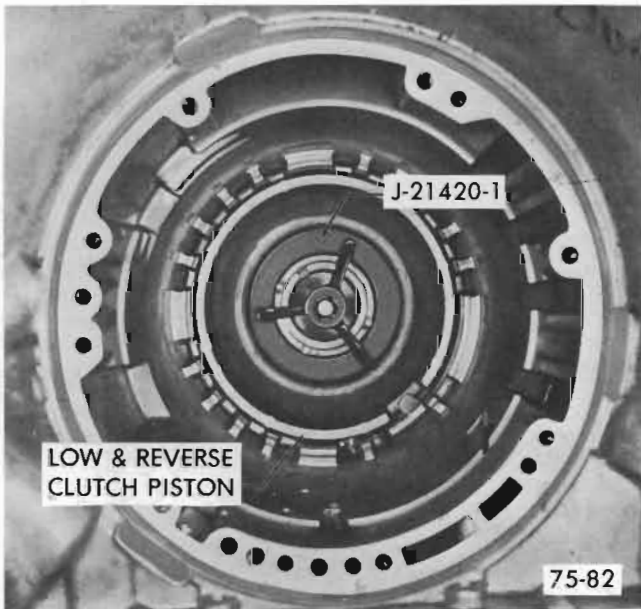

Figure 75-117
1. Using Tool J-21420-1 compress low and reverse clutch piston spring retainer and remove piston retaining ring and spring retainer. See Figure 75-117.